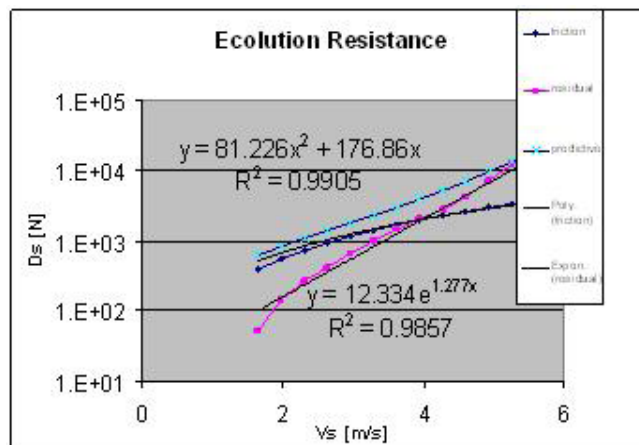

Figure 5, the Evolution resistance calculation and the derived formula of friction (polynome) and residual (exponential)
Using (7) some calculations were done for a 60 tons sailing ship and 300 m2 of Laddermill kite system in 20 knots of wind2. The ship resistance was taken from the VPP calculations, seen fig 5. The overall system efficiency was taken 20% and 50% respectively, see figure 6.